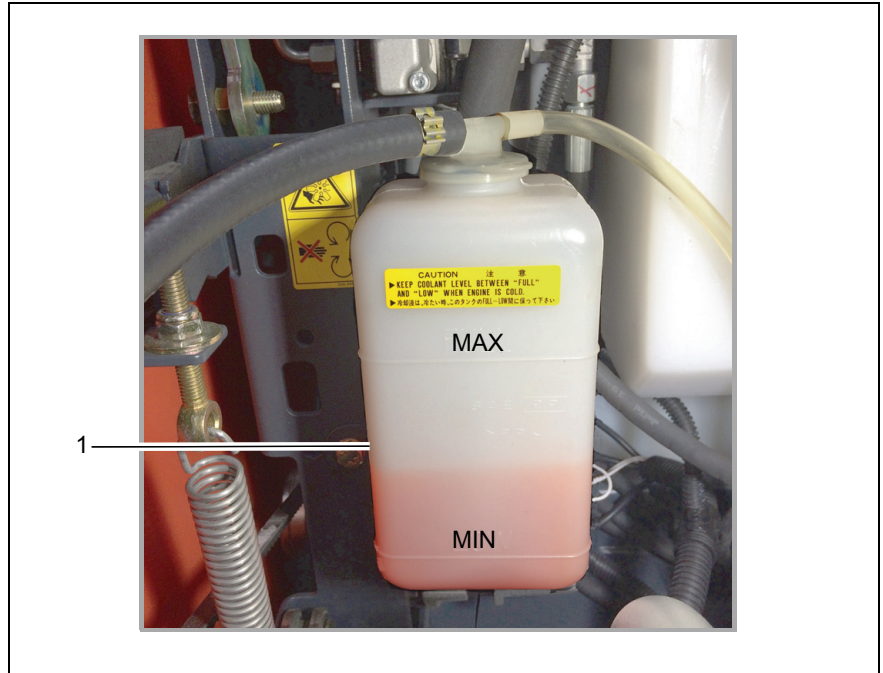

Fig.20
3. Check the coolant level. With the engine cooled down, coolant must be visible between the MIN and MAX mark of the expansion tank (Fig. 20/1).